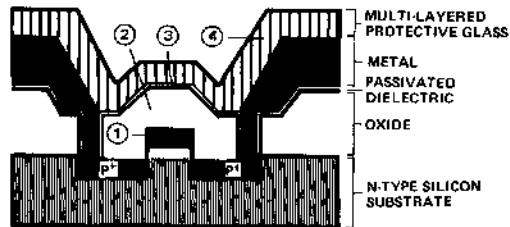

FIGURE 5.
Because the gate dielectric is protected by poly-silicon and the overlying layers of oxides, it is possible to reliably package silicon gate devices in silicone packages. Cross-sections of metal gate and silicon gate devices are shown in Figure 5. The metal gate devices are protected by two layers: aluminum metallization and glass passivation. On the other hand, the silicon gate device is protected by four layers: (1) thick poly-
Figure 5 illustrates a typical 8800 series output structure.